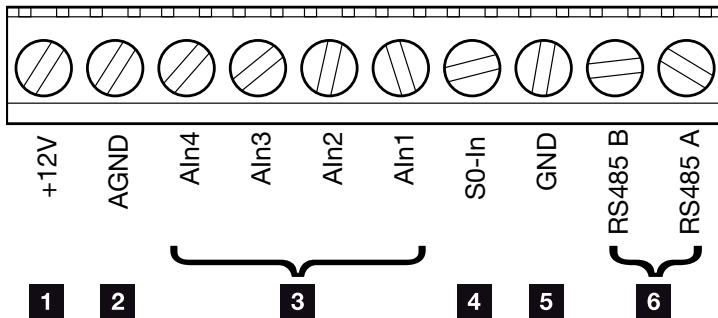

Fig. 35: Structure of the 10-pin terminal
7. Switch the DC switch of the inverter to ON.  **Fig. 35**